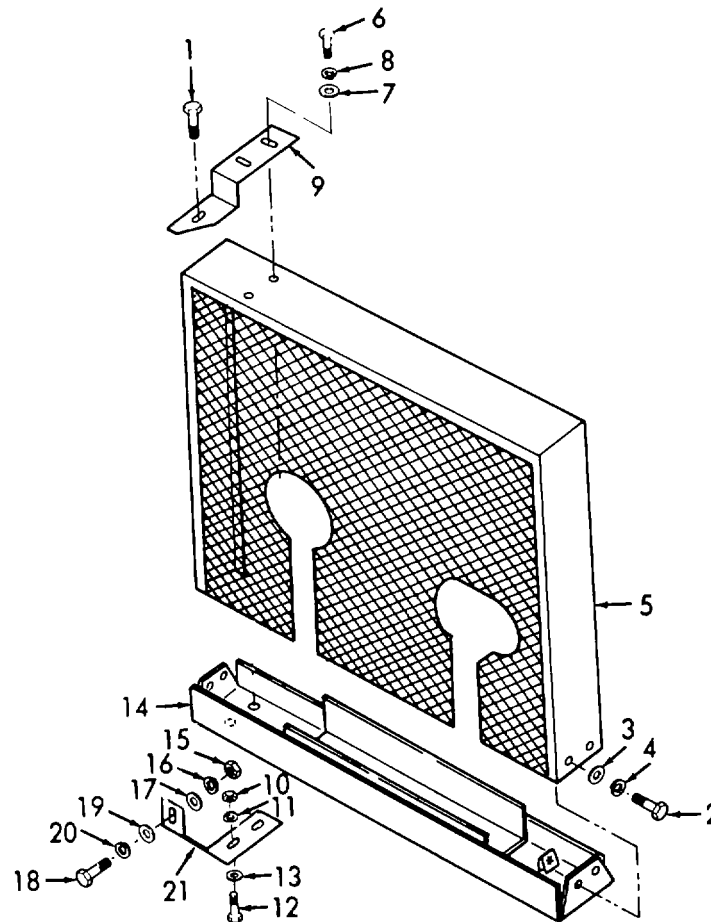

Figure 3-11. Guard Assembly, Removal.
a. *Removal.* (Refer to Figure 3-11).